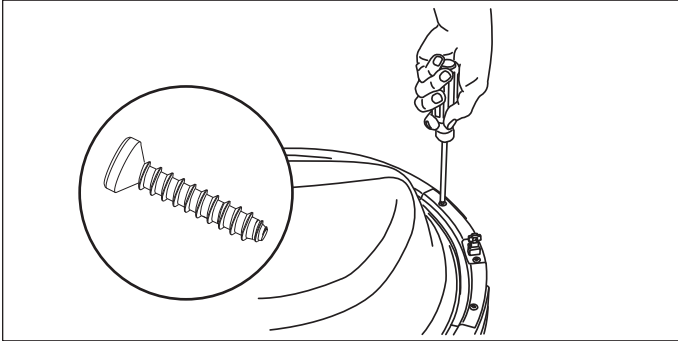

Figure 2-41.
2. Reattach with 2 long, coarse-thread, counter-sunk screws. (See Figure 2-41)